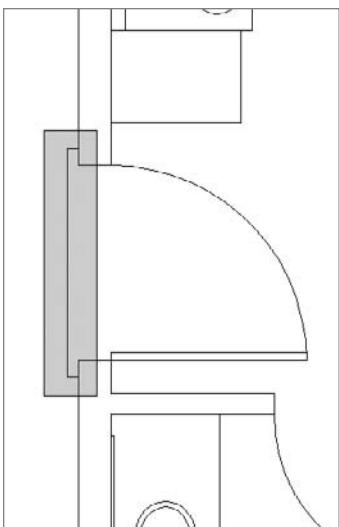

FIGURE 6.20 Selecting the threshold with a regular selection window
6. Start a selection window slightly above and to the left of the threshold and drag down and to the right, as shown in Figure 6.20. Be sure to enclose the horizontal threshold lines completely.